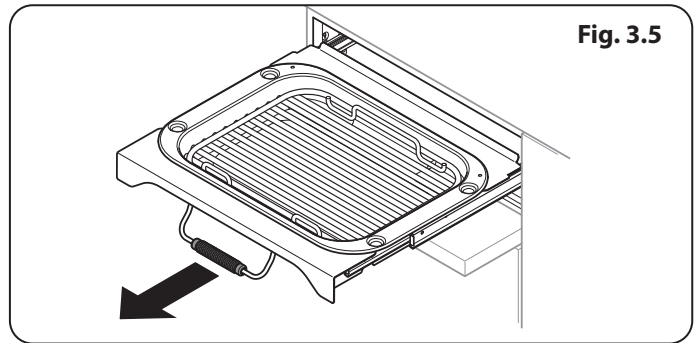
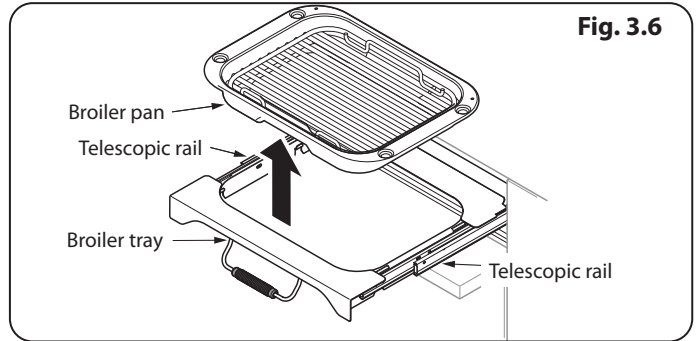

Fig. 3.5
Fig. 3.6
1. To remove the broiler pan, pull the tray assembly forwards (**Fig. 3.5**) and then lift the broiler pan clear of the broiler tray assembly (**Fig. 3.6**).